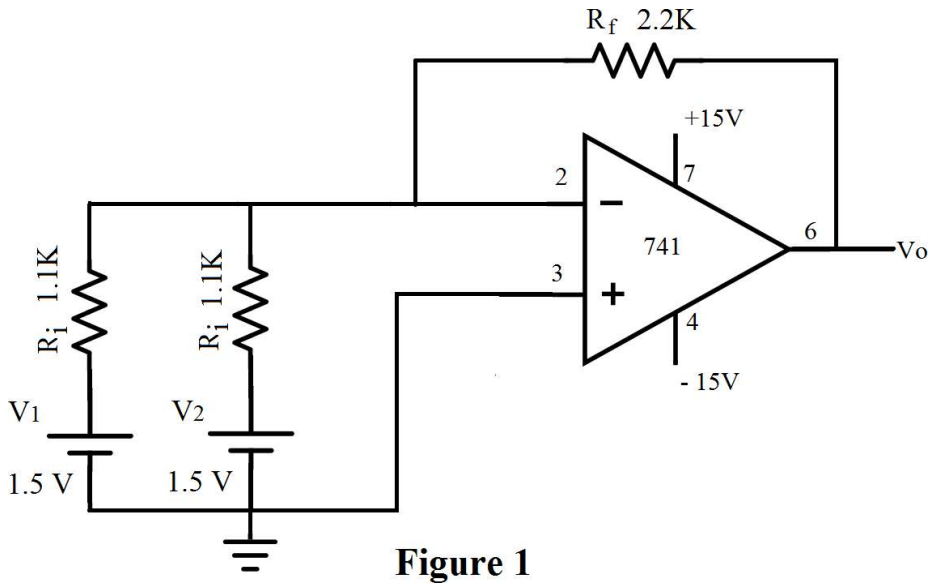

Figure 1
4. Give $V_1=V_2=+1.5V$ DC with polarity as shown in fig.1.